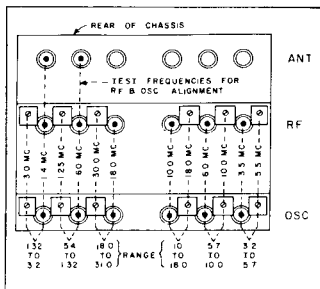

Figure 9. Antenna RF and Oscillator Tuning Diagram
e. As shown on the Chart (fig. 9), the front row of adjustments control the H.F. oscillator frequency and consequently the dial calibration. The middle row of adjustments control R.F. alignment, and the rear adjustments are for antenna alignment of the two lower frequency bands. These two antenna coils should be adjusted at the low frequency ends of the two bands with the antenna trimmer set at mid range. The TUNING RANGE switch is turned to the proper position for each band as required.